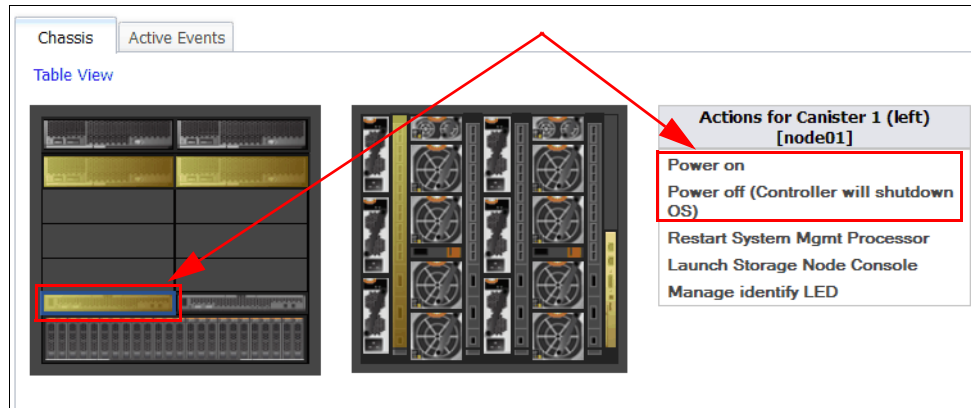

Figure 13-48 MM chassis map - powering on and off individual node canister
1. Open the CMM and navigate to the chassis map. The chassis map displayed by the CMM provides a graphical view of the IBM Flex System Enterprise Chassis components. Using the mouse, locate the node that you want to power off, as shown in Figure 13-48.
Use this procedure when it is necessary to power on the IBM Flex System V7000 Storage Node using the CMM, as shown in Figure 13-48.